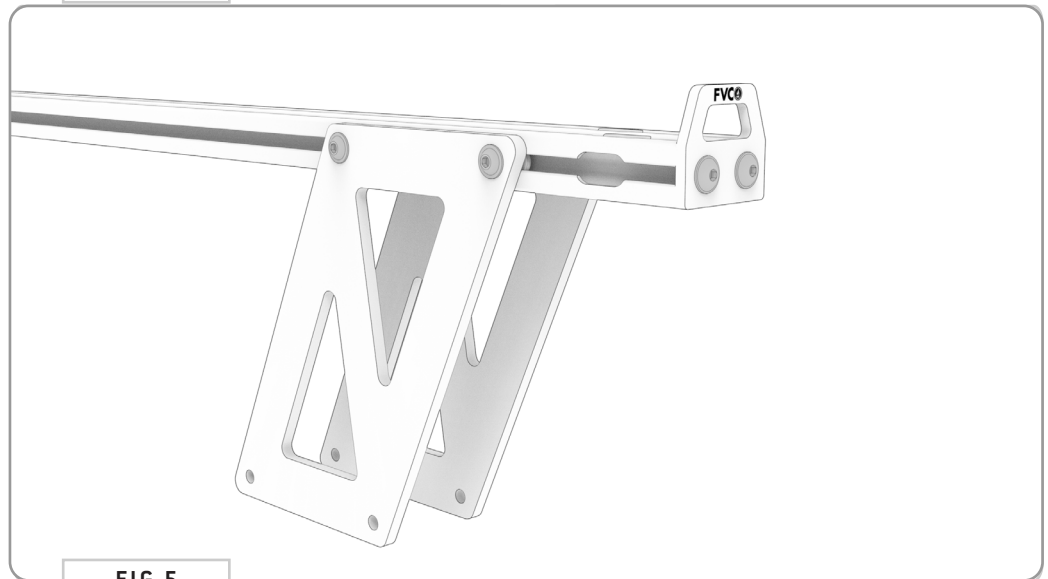

FIG 5
2.3 Attach Riser to Crossbar: Take the High Bar Riser and position it against the surface of the crossbar. Make sure it is in the desired *High* orientation. Loosely attach using 1/4-20 x 0.5 Flanged Button Head Hex Drive Screws (FIG 5).